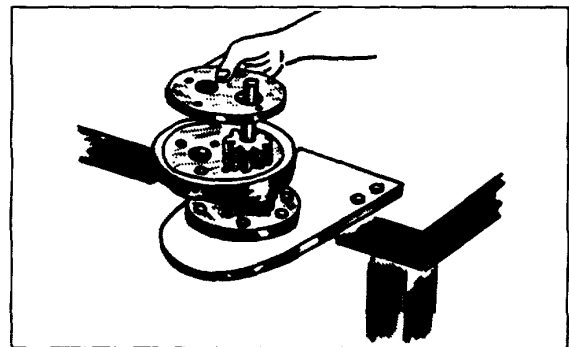

FIGURE 16 Assembly of Drive Shaft and Wear Plate Inner
- m. Place inner wear plate over drive shaft, making sure the bronzed surface with relief hole is facing gear. (Figure 16).